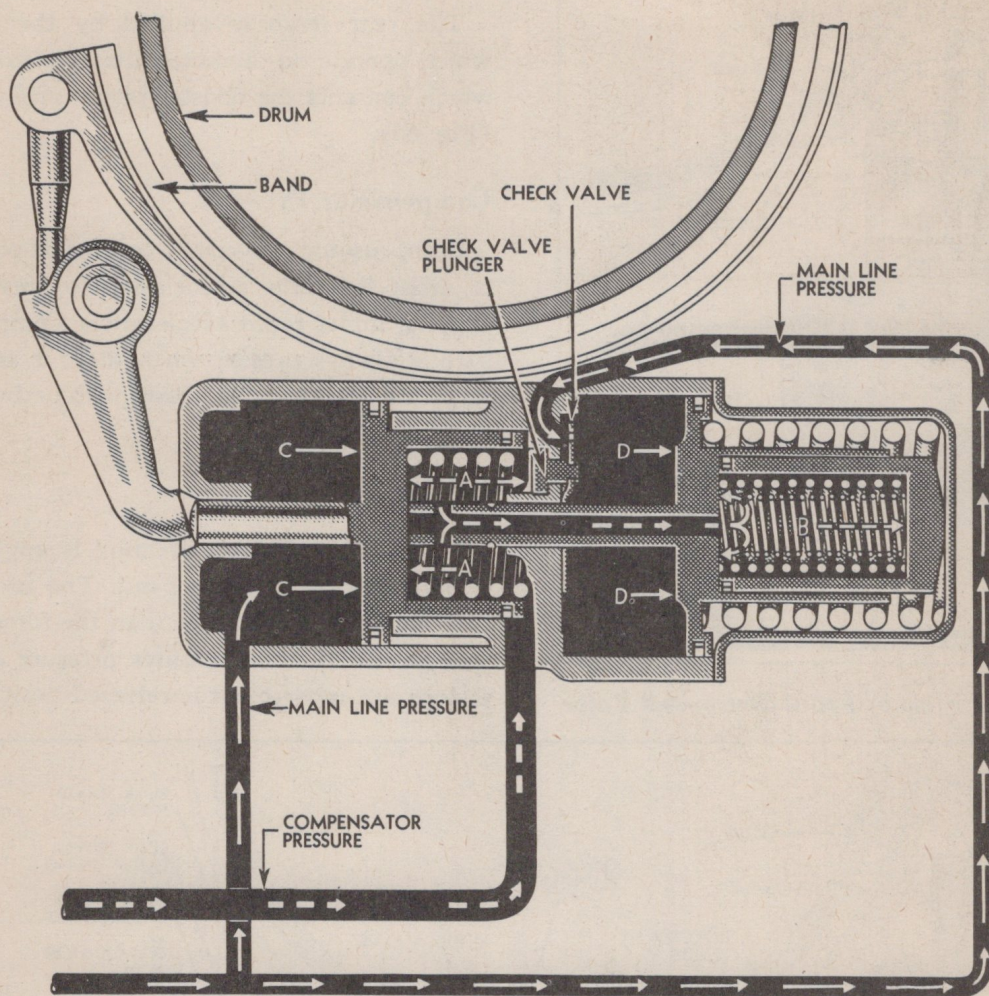

Fig. 65—Schematic View of Rear Servo—Released
Regulated main line pressure is applied at points C and D to release the band. The force applied at these two areas is greater than the force of the servo springs and the compensator pressure and the servo pistons are moved to the released position (Fig. 65).
the check valve then returns to its seat causing the oil under the accumulator piston to pass through the small hole in the check valve and in this way delays application of the band (Fig. 65).
2. On an open carburetor throttle downshift, compensator pressure is effective at points A and B and also on the end of the check valve plunger which is connected to the accumulator check valve. When the pressure applied at point D is released the compensator pressure applied on the check valve plunger holds the check valve off its seat and the oil under the accumulator piston is allowed to exhaust freely for a rapid application of the band (Fig. 65).